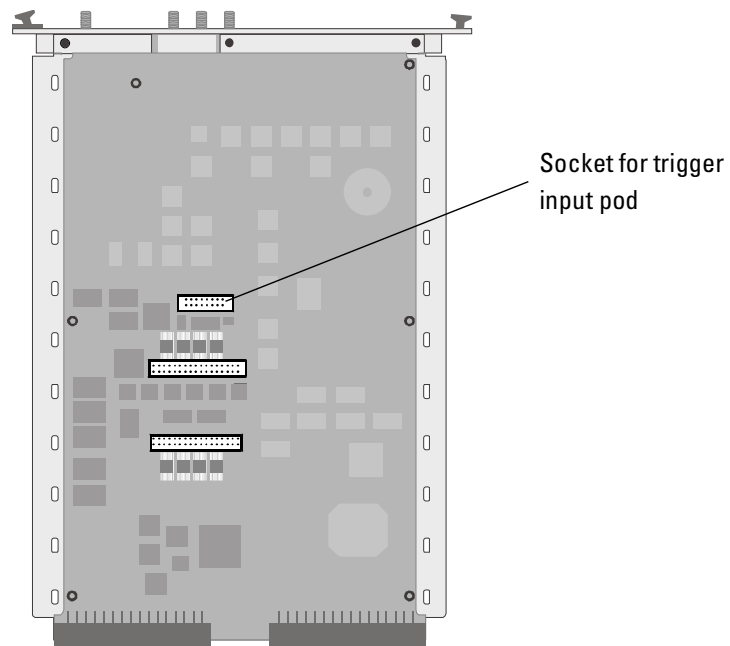

Figure 36 Clock Module Connections
- 3 Plug the trigger input pod into the appropriate 16-pin socket on the clock card, as indicated in *Figure 36*.